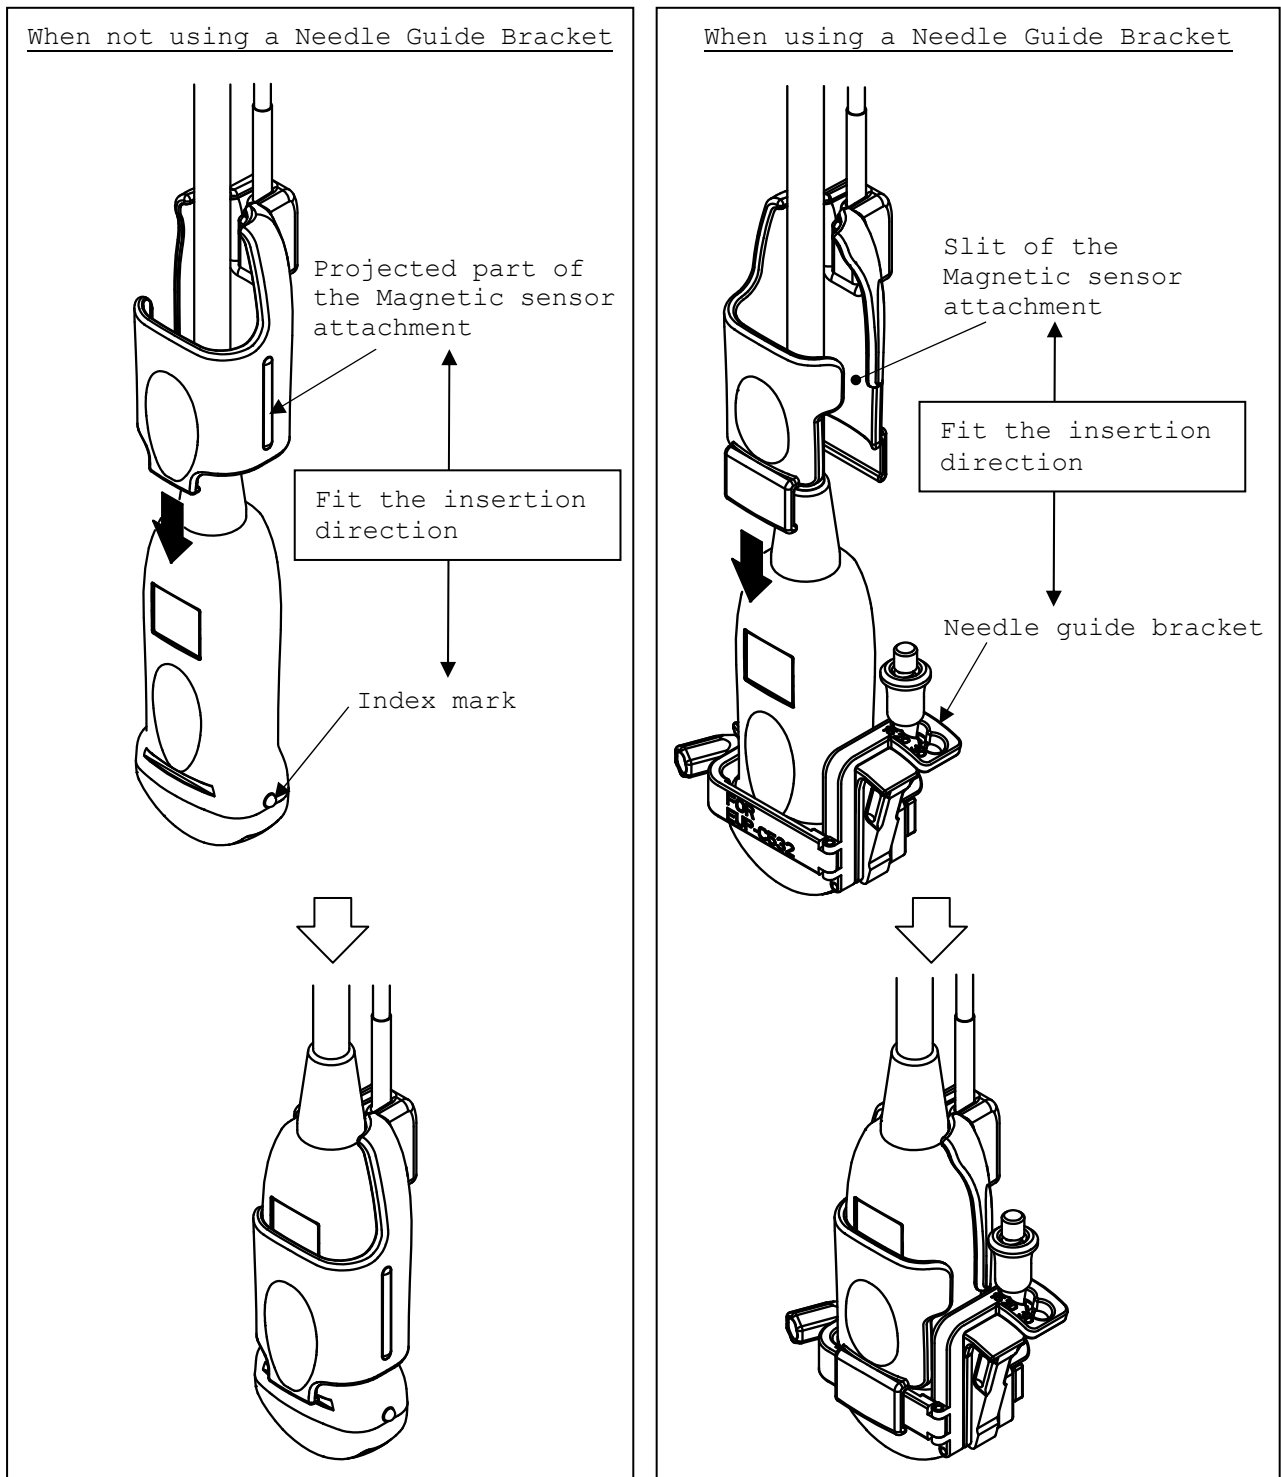

Fig. 5 How to attach the Magnetic sensor attachment
- c) Place the magnetic sensor attachment on the probe with the correct direction as shown in Fig. 5.